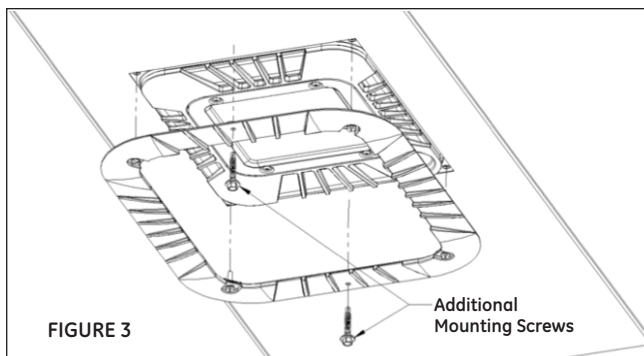

FIGURE 3
- C. Lift the luminaire to the rectangular cutout. Pass wires or cables through the ceiling. Do not pinch or trap wires between luminaire and ceiling. Hold luminaire sideways so it passes through the rectangular cutout, turn it so it is facing down, and lower it down so it rests on the top surface of the ceiling. Position the luminaire so the perimeter gasket is resting on the top surface of the ceiling all the way around the luminaire as shown in Fig. 3.
- D. Take the beauty ring and screws set aside in step B and mount the beauty ring to the luminaire. (See Fig. 3)
- E. Install the additional mounting screws provided. Use 30in-lbs of torque for the mounting screws (do not over tighten or strip screws). If ceiling material is 22ga or lighter, an accessory backer plate is recommended. (See Fig. 3)